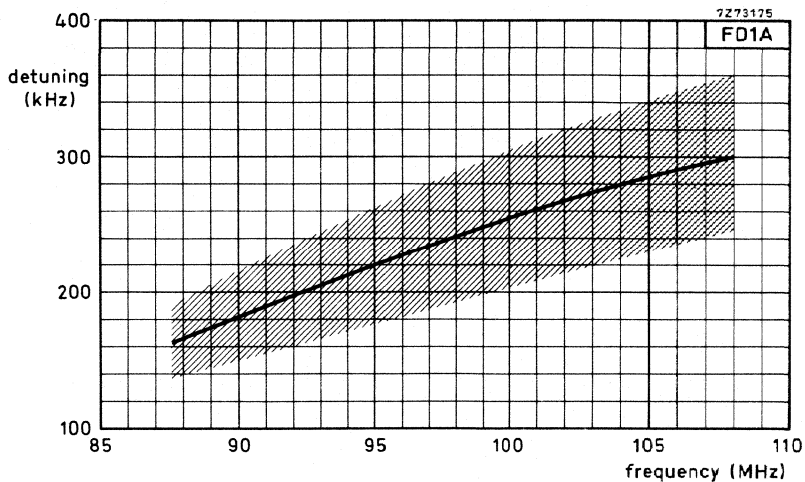

Fig. 6 Detuning as a function of signal frequency at a control voltage change from 0 to +400 mV.
A. F. C. sensitivity (only for FD1A)	see Figs. 6 and 7